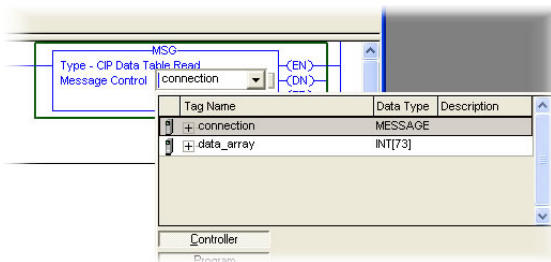

Figure 103: MSG Instruction Tag Assignment
- a) Edit the "Message Control" field on the MSG instruction to use the previously-created "connection" tag. Refer to Figure 103.